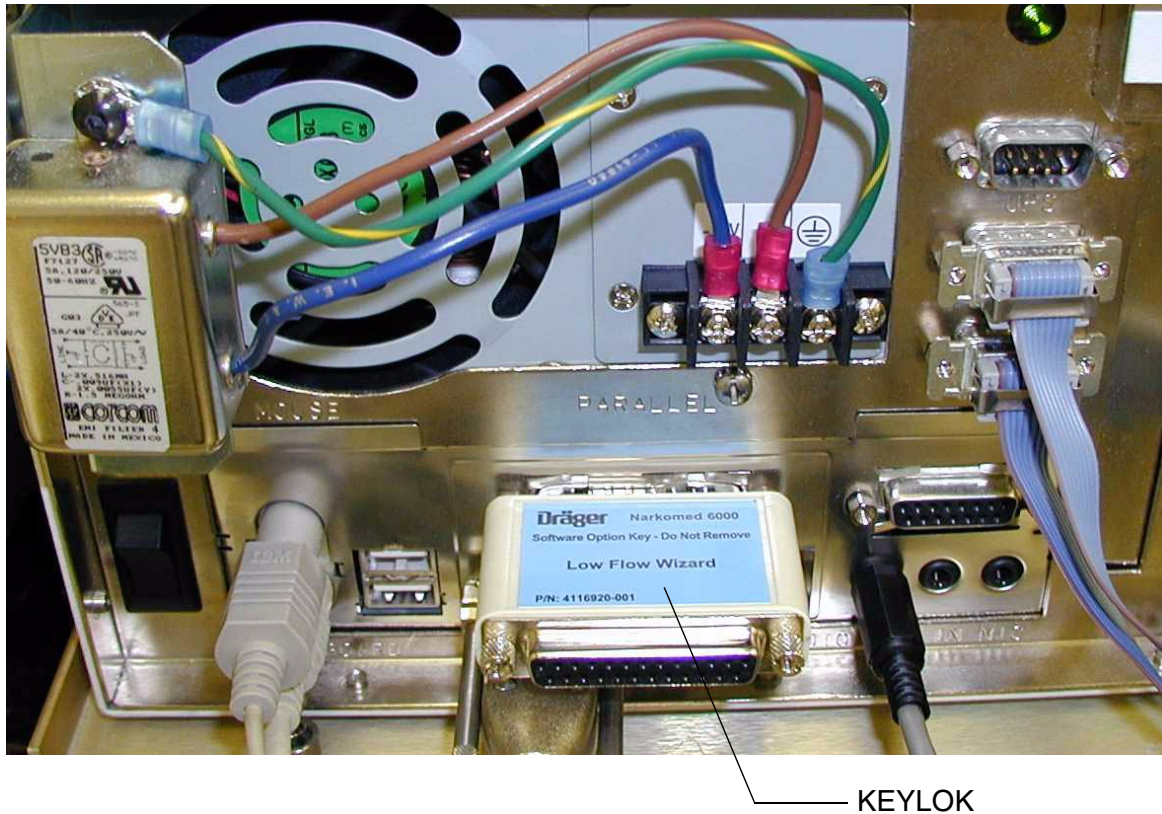

FIGURE 13. Typical Keylok Installation
- 6.27 If applicable, obtain the correctly configured Keylok and secure it to the WPU printer port using a small slotted screwdriver. See Figure 13.